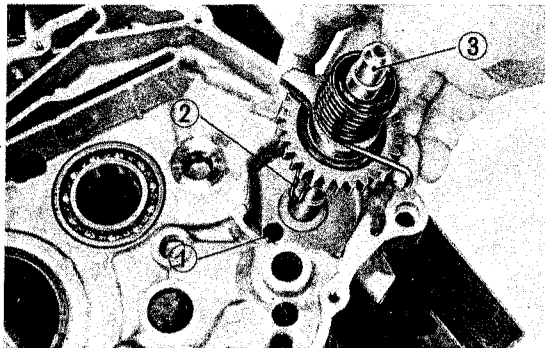

Fig. 92 Kick starter installation
- 2) Assemble the kick starter spindle into the right crankcase. (Fig. 92)